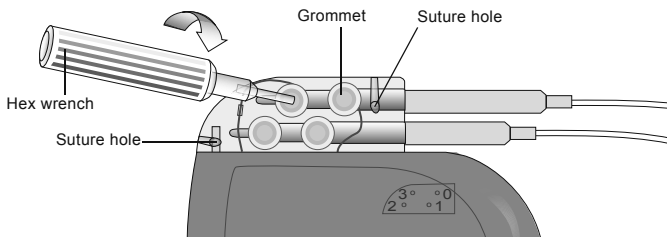

Figure 6. Insert hex wrench and tighten all four setscrews.
- b. Tighten the setscrew by turning the hex wrench clockwise until resistance is felt (Figure 6).